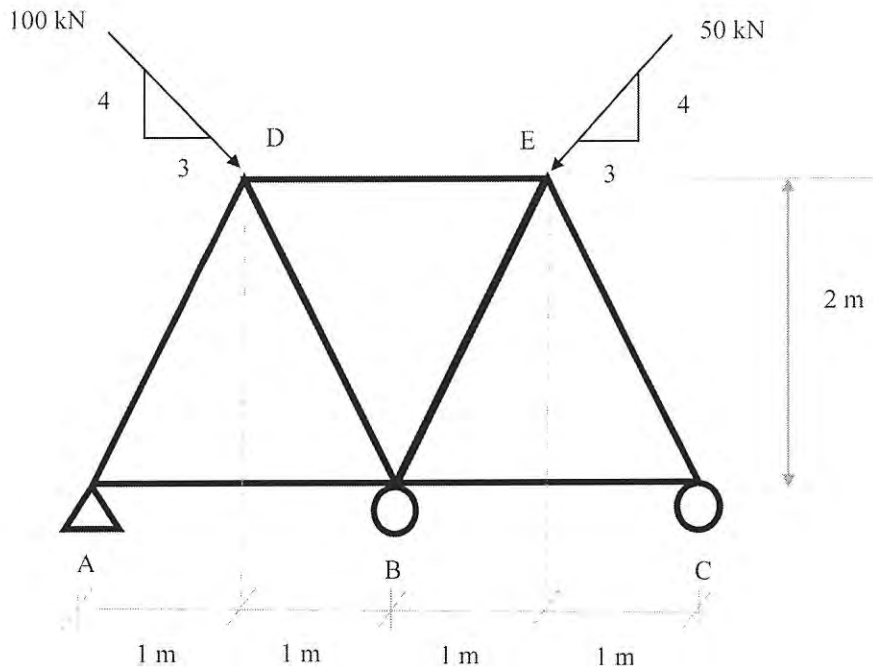

FIGURE Q1
- Q1** **Figure Q1** shows a truss that is pinned supported at A and roller supported at B and C. The truss is subjected to inclined load of 100 kN and 50 kN at D and E, respectively. The cross section area for the truss member is 400 mm^2 and the Young's Modulus for all truss members is 200 kN/mm^2 .